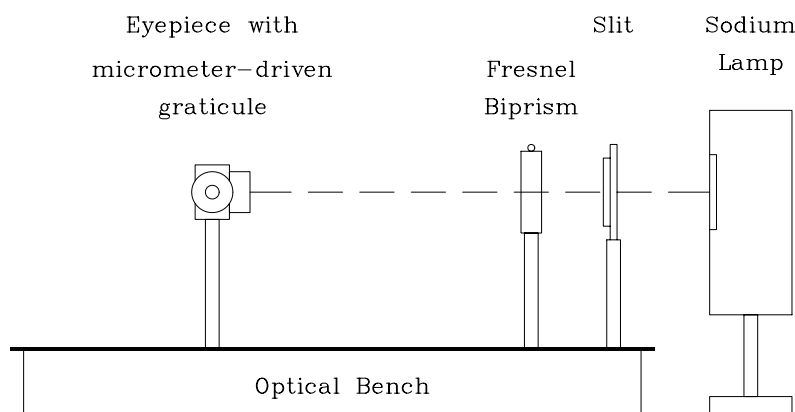

Figure 2: Sketch of experimental setup.
- (1) First check that the centres of **ALL** components in the system are set to be the same height above the optical bench. That is, the centre of the hole in the lamp housing should be the same height as the centre of the slit, which should be the same height as the centre of the lens, etc. (see Figure 2). You should try to achieve this to 5 mm accuracy or better. Now remove all components from the optical bench. (Note: You cannot mount the lamp on the optical bench itself, it has to stand on the wooden lab bench top.)
- (2) Next, place the sodium lamp on its stand at one end of the optical bench facing down the track.